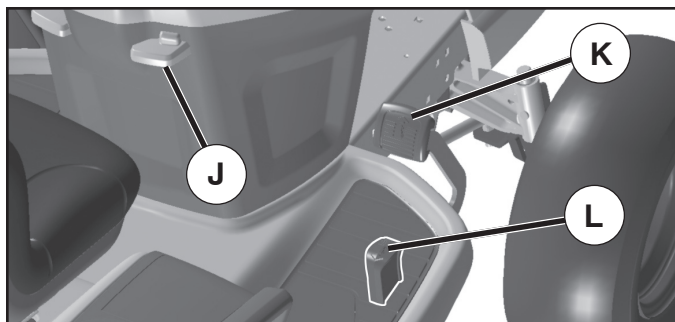

FIG. 7
### TO MOVE FORWARD AND BACKWARD (See Fig. 7)
## TO USE CRUISE CONTROL (J) (See Fig. 7)